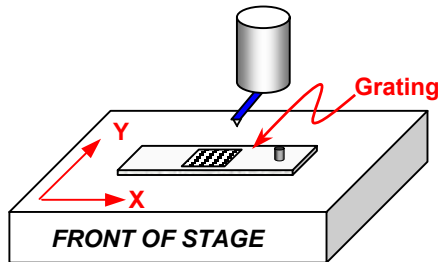
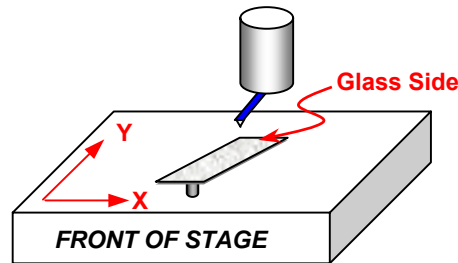

Figure 9-1 The calibration slide with the grating oriented for x-axis calibration.
Figure 9-3 The glass slide properly positioned under the scanner for z-axis calibration.
- Verify that the lines in the grating fall within $\pm 4^\circ$ degrees of the y-axis of the scanner. For example, refer to the grating image in Figure 9.1. The pitch spacing along the x-axis varies with the cosine of this angle, so keeping the rotation under 4° keeps the pitch error under 0.25 %.
Locate at the calibration glass slide provided with your instrument (Ref. Figure 9-1). When this slide is placed on the translation stage upside-down, so that it is supported by one edge of the glass and the metal post (Figure 9-3), the surface of the glass slide will have a 10% slope. The 10% sloped surface is used to calibrate the z-axis of the scanner via the previously performed xy calibration. Provided the xy axis are calibrated correctly, in a scan of this surface we know that for every 10 μm of motion along the direction of the glass slope, the surface must rise 1 μm . This known vertical change is used to calibrate the z-axis of the scanner.